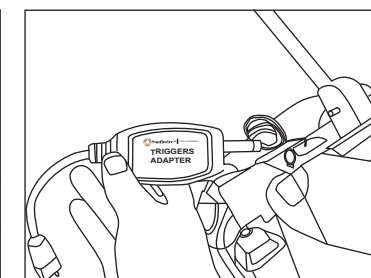

Fig. 5
1. Plug the RCA Cord (9) from the Maxis® Feeder into the Triggers Adaptor box (Fig 5) and plug adaptor box into the back of the Trigger Remote pedal.